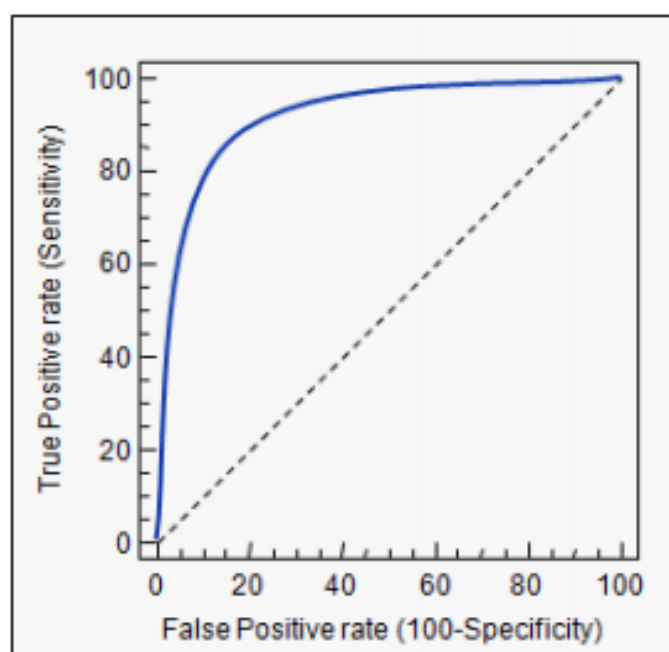

Figure 1:
An ROC curve demonstrates several things: 1. It shows the tradeoff between sensitivity and specificity (any increase in sensitivity will be accompanied by a decrease in specificity). 2. The closer the curve follows the upper-left border of the ROC space, the more accurate the test. 3. The closer the curve comes to the 45-degree diagonal of the ROC space, the less accurate the test. 4. The slope of the tangent line at a cutpoint gives the likelihood ratio (LR) for that value of the test. 5. The Area Under the Curve is a measure of accuracy. Figure 1: Receiver Operating Characteristic (ROC) curve